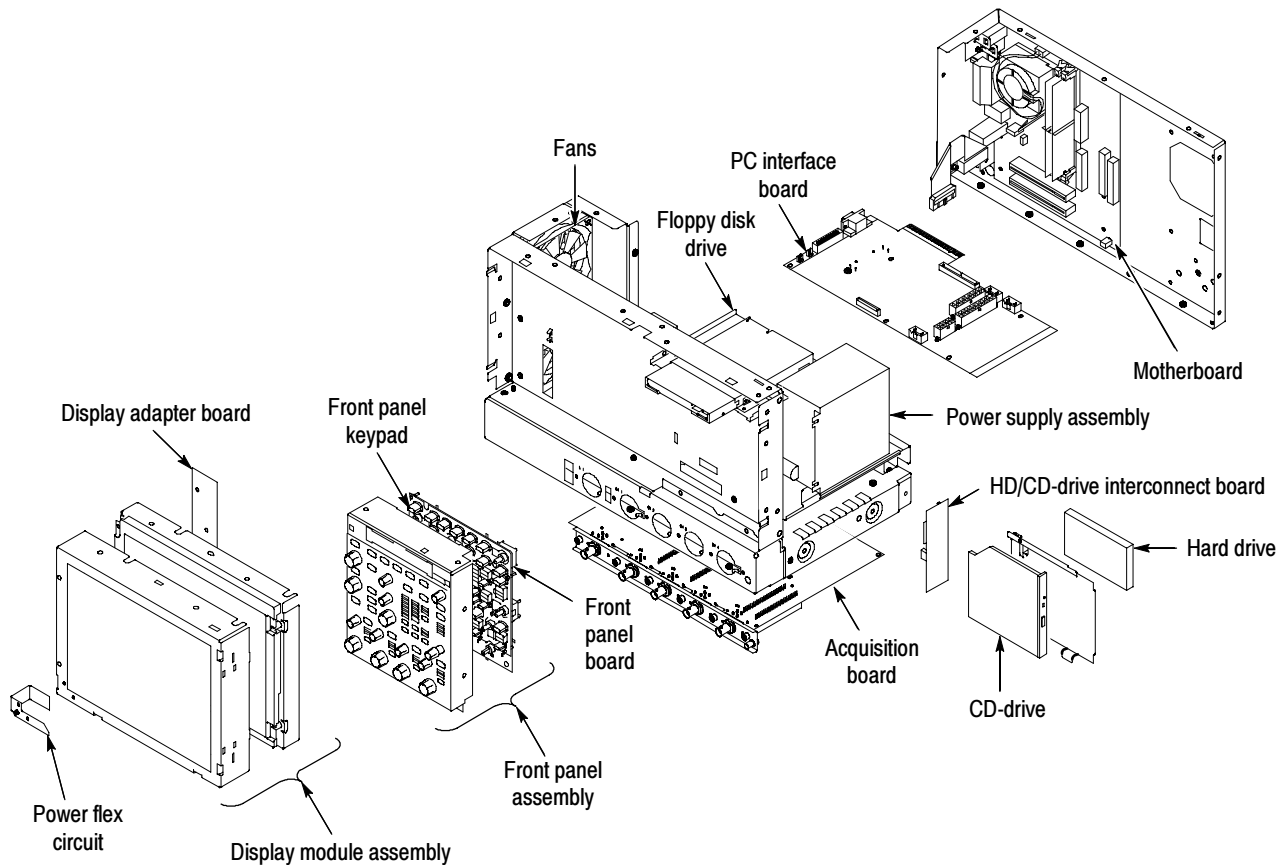

Figure 5: Internal modules
1. *Locate module to be removed:* The CD-RW and Hard Disk Drives are mounted on a common CD/Hard Disk Drive assembly which must first be removed to gain access to either drive. Locate the assembly in Figure 5.